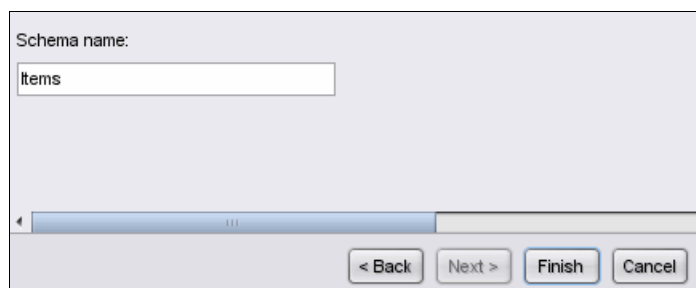

Figure 12-28 Naming the items flat file schema
7. Name the schema that you are creating Items, and click **Finish**. Refer to Figure 12-28.